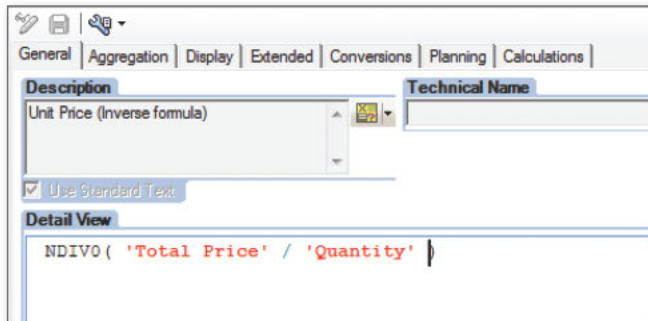

Figure 2 Defining the Inverse Formula for Unit Price
2. Define how the basic key figures will be calculated out of this formula by going to the PROPERTIES area of each basic key figure (see Figure 2). The order with which you place the subformulas UNIT PRICE and QUANTITY determines which basic key figure will be calculated first as a result of a change in the input-ready formula (TOTAL PRICE). For UNIT PRICE, enter "NDIVO" (TOTAL PRICE/QUANTITY) and for QUANTITY, enter "NDIVO" (TOTAL PRICE/UNIT PRICE).